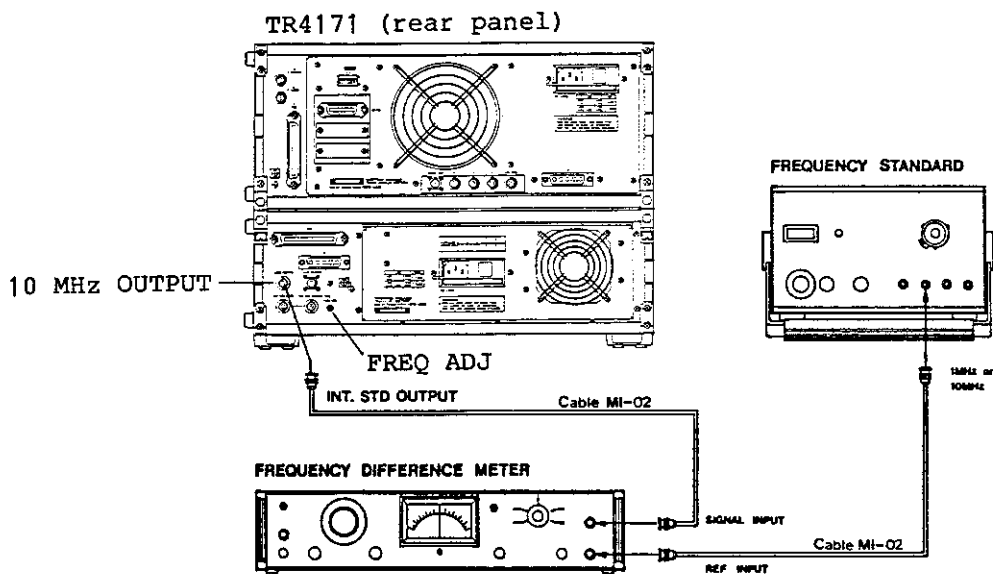

Fig. 11-1 Time base calibration
- ① The time base oscillator output has a 10 MHz frequency and a level of approximately 5 V (TTL compatible), and is output at the 10 MHz OUTPUT connector or INT STD OUTPUT connector (5 MHz) on the rear of the instrument. The frequency accuracy of the oscillator output can be adjusted by the FREQ ADJ screwdriver control next to the INT STD OUTPUT connector.
- ② Prepare the measuring system as shown in Figure 11-1, and adjust the FREQ ADJ control until the accuracy of the instrument is determined.